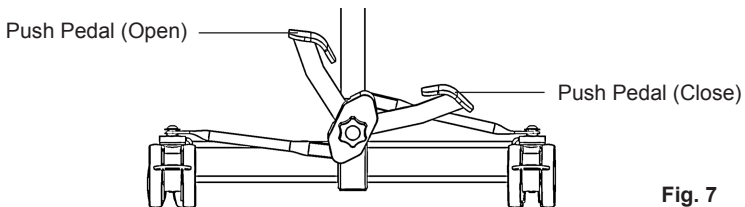

Fig. 7
**Foot Pedal Leg Operation:** If your lift is fitted with foot pedal operated legs, release the brakes and confirm they open and close satisfactorily by operating the push pedals (Fig. 7). Hold onto the push handle for stability.